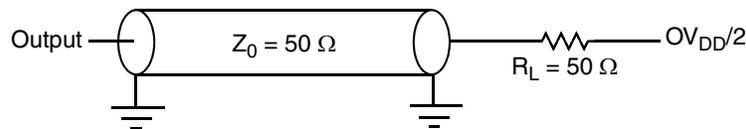

Figure 14. Local Bus C Test Load
Figure 14 provides the AC test load for the local bus.
- All outputs are measured from the midpoint voltage of the falling/rising edge of t_{TCLK} to the midpoint of the signal in question. The output timings are measured at the pins. All output timings assume a purely resistive 50-Ω load (see Figure 14). Time-of-flight delays must be added for trace lengths, vias, and connectors in the system.
- The symbols used for timing specifications follow the pattern of $t_{(first\ two\ letters\ of\ functional\ block)(signal)(state)(reference)(state)}$ for inputs and $t_{(first\ two\ letters\ of\ functional\ block)(reference)(state)(signal)(state)}$ for outputs. For example, t_{JTDVXH} symbolizes JTAG device timing (JT) with respect to the time data input signals (D) reaching the valid state (V) relative to the t_{JTG} clock reference (K) going to the high (H) state or setup time. Also, t_{JTDXKH} symbolizes JTAG timing (JT) with respect to the time data input signals (D) went invalid (X) relative to the t_{JTG} clock reference (K) going to the high (H) state. Note that, in general, the clock reference symbol representation is based on three letters representing the clock of a particular functional. For rise and fall times, the latter convention is used with the appropriate letter: R (rise) or F (fall).